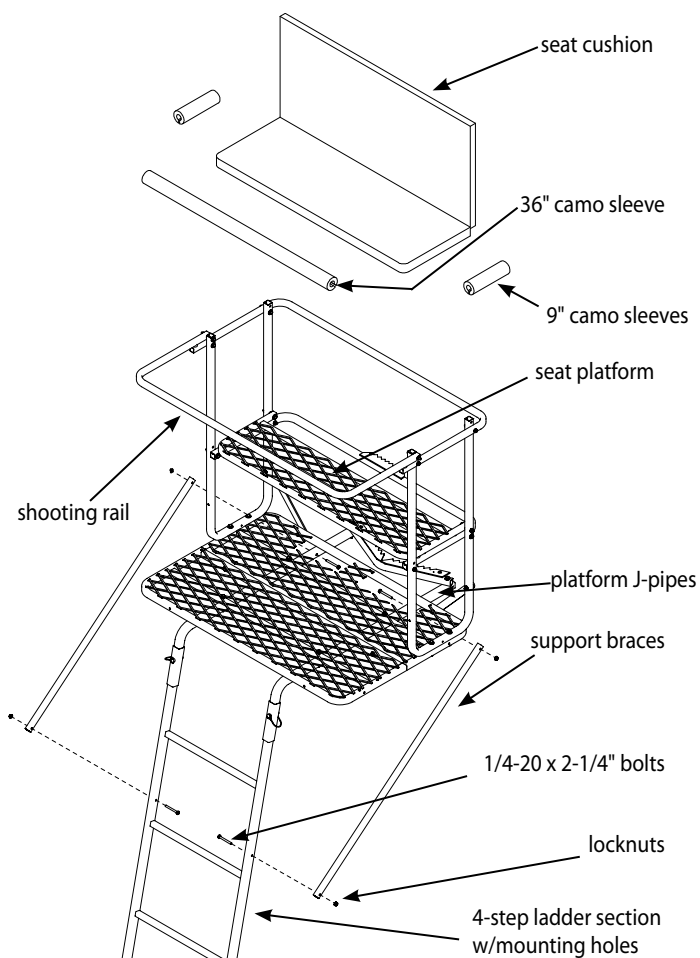
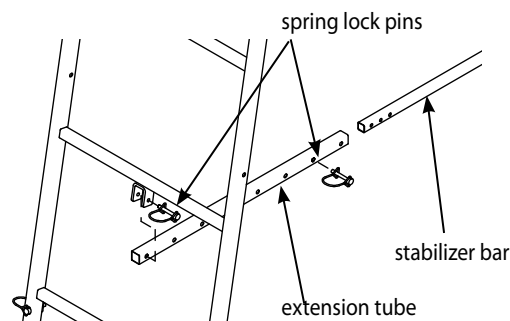

Figure 8
Figure 9
12. Attach the (2) support braces (2ML46) to the outside of platform J-pipes and 4-step ladder section with mounting holes using (4) provided 1/4-20 x 2-1/4" bolts, and locknuts. **SEE FIGURE 8. You must now tighten all nut & bolt assemblies. Be sure not to over tighten or crush tubing when tightening!**
b. Attach (2) provided 9" and (1) 36" camo foam sleeves to the backrest rail (armrest) and shooting rail by simply wrapping around square tubing and attaching Velcro together.
14. a. Attach the stabilizer bar extension tube (1ML23) to the second ladder section mounting bracket using (1) provided spring lock pin. **SEE FIGURE 9.**
b. Slide the stabilizer bar (L17) into the extension tube and attach the two pieces together using (1) provided spring lock pin. Spring lock pin must go through both the extension tube and the stabilizer bar at appropriate hole to achieve desired distance from tree. Adjustment in length may be needed when ladder is uprighted later in instructions. **SEE FIGURE 9.**